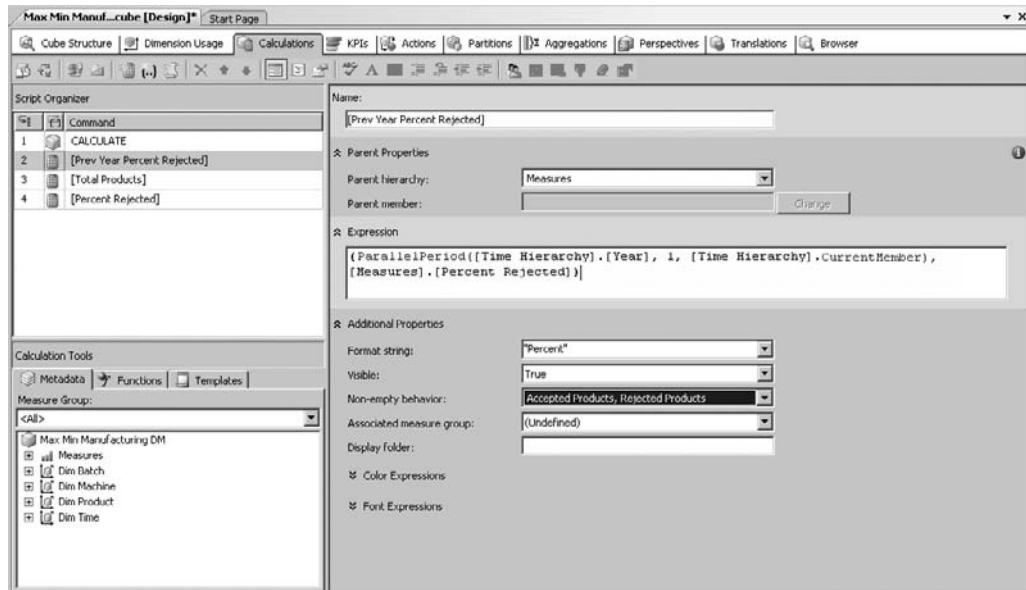

Figure 11-31 The Prev Year Percent Rejected calculated measure
9. Check the Accepted Products and Rejected Products measures in the Non-empty Behavior selection window and click OK. The Calculations tab should appear as shown in Figure 11-31.